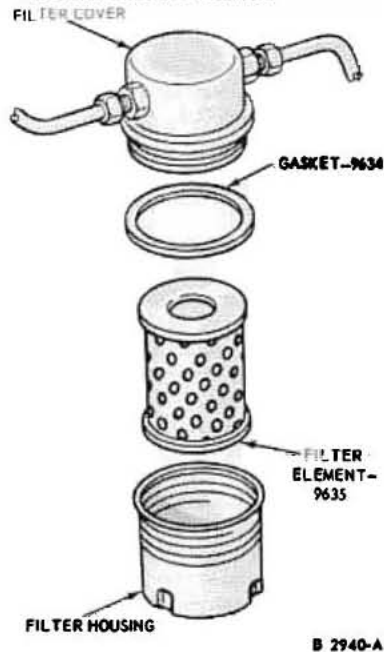

Fig. 42—In-Line Fuel Filter—427 V-8
The in-line fuel filter for the 427 V-8 engine (Fig. 42) contains a replaceable filter element.
1. Unscrew the filter housing from the fuel filter cover (Fig. 42). Remove and discard the filter element and gasket.
4. Screw the filter housing onto the cover (Fig. 42). Hand tighten the filter housing until the gasket makes contact with cover; then, advance it $\frac{1}{8}$ turn.